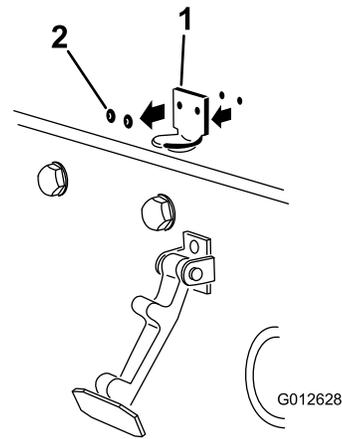

Figure 6
2. Remove the (2) rivets securing the hood latch bracket to the hood (Figure 6).